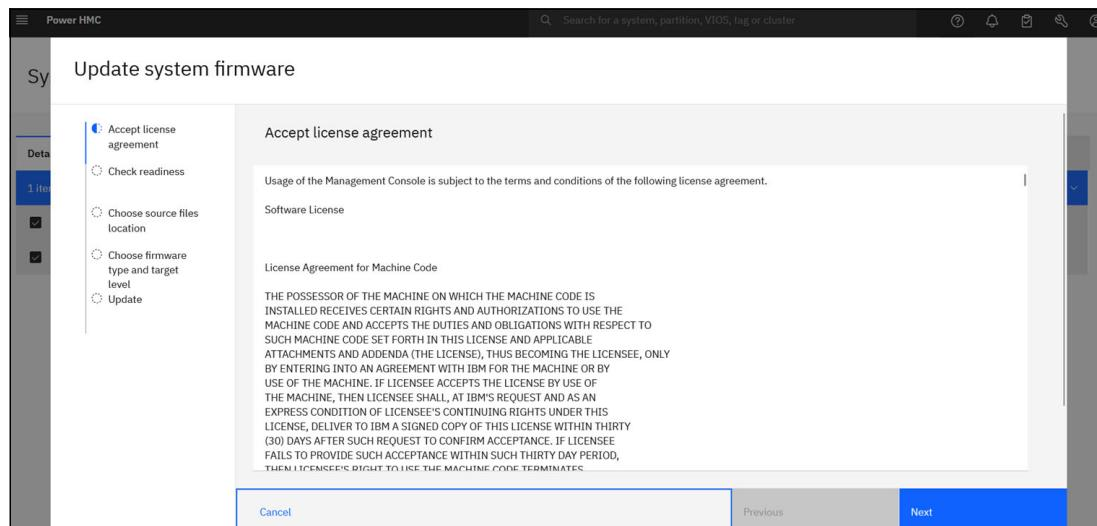

Figure 8-7 The license agreement is displayed for the user to review and accept the terms.
6. The final step involves monitoring the update progress and confirming its successful completion. Figure 8-7 through illustrate these key steps in the update process.